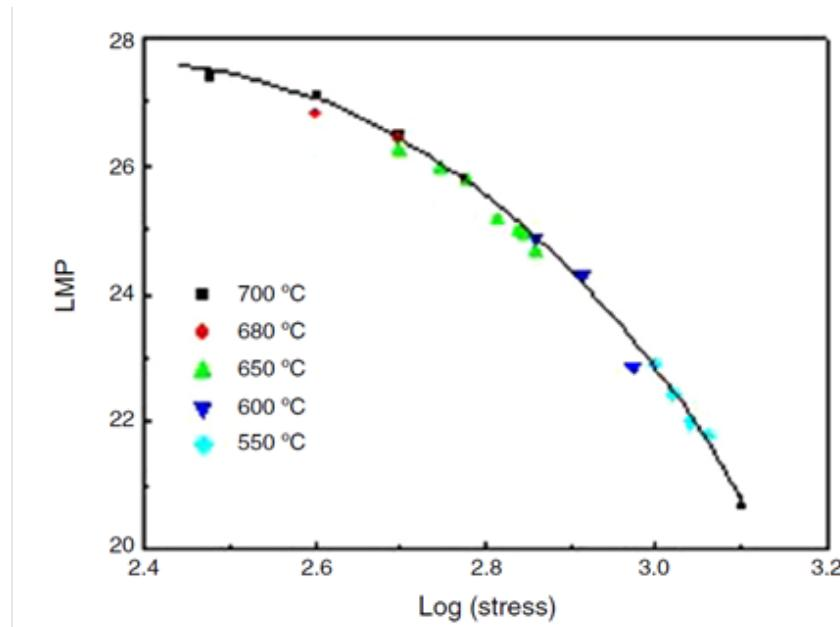

Figure 6. Larson Miller Parameter (LMP) correlation with stress obtained from stress rupture test of Ni-based super alloy.
b) Your team leader shares the results from stress rupture tests performed at different test parameters on Ni-based super alloy used for turbine blades (shown in Figure 6). Consider that $LMP = T (\ln(t) + c) \times 10^{-3}$ and that the Larson miller parameter constant c is 25.